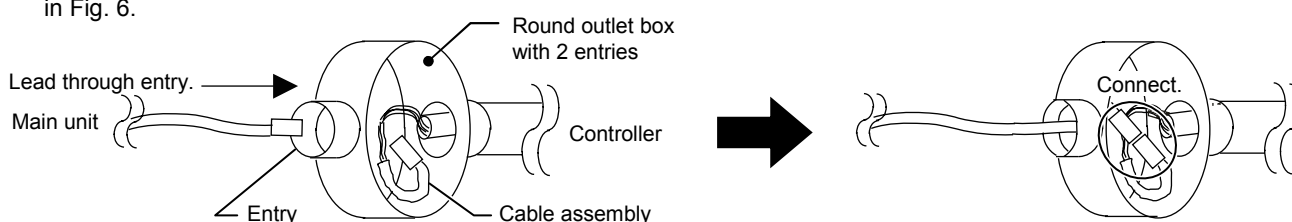

Figure 6. Connection of the main unit cable with the cable assembly
- 3) Connect the main unit cable with the cable assembly, to which the controller cable has already been connected, as shown in Fig. 6.